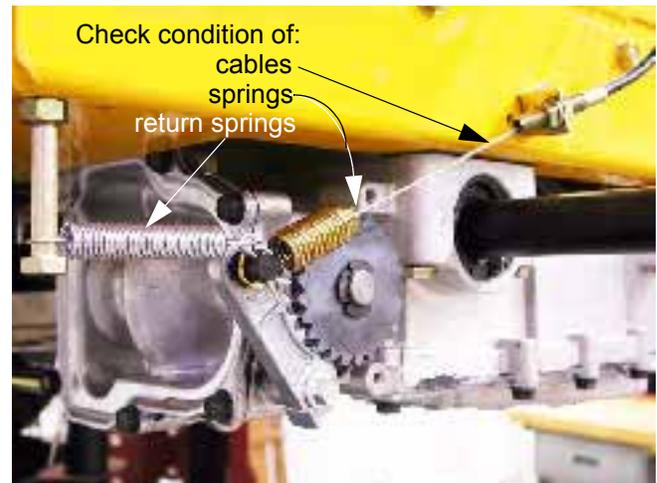

Figure 8.4
- 8.4. Prior to adjustment, check the condition of the parking brake cables. See Figure 8.4.